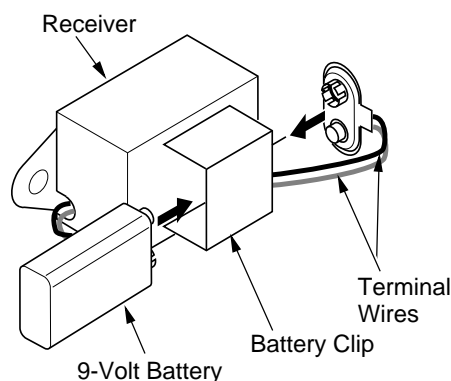

Figure 37 - Attaching Battery to Receiver
4. Locate the battery clip mounted on the back of the receiver (see Figure 37).
6. Attach the terminal wires to the battery (see Figure 37).